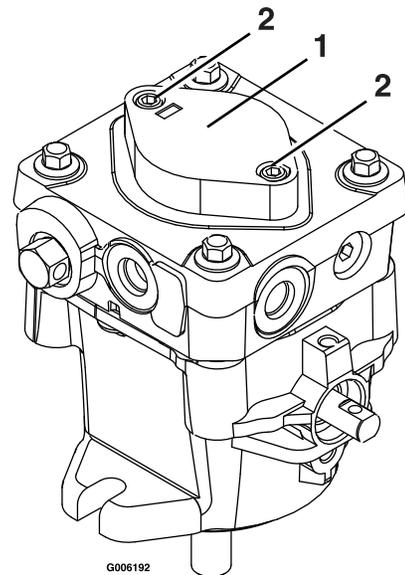

Figure 13
7. If either drive wheel does not rotate, one or both of the charge pumps (located on the top of the main pump as shown in Figure 13) may have lost their “prime”. Refer to **Hydraulic System Air Purge** section.
The critical area for purging air from the hydraulic system is between the oil reservoir and each charge pump located on the top of each variable displacement pump (Figure 13). Air in other parts of the hydraulic system will be purged through normal operation once the charge pump is “primed”.
5. To “prime” charge pump, loosen two hex socket head capscrews (shown in Figure 13) **1 1/2 turns only. Make sure engine is not running.** Lift the charge pump housing upward and wait for a steady flow of oil to flow out from under the housing. Retighten the capscrews. Do this for both pumps.